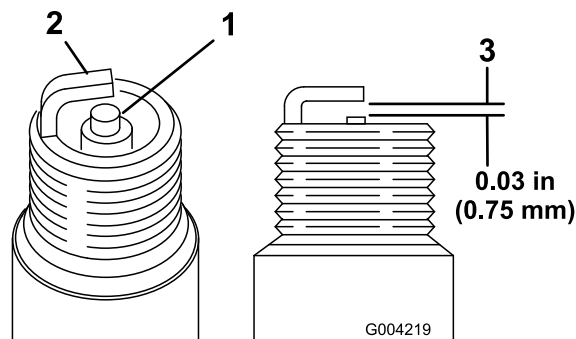

Figure 24
1. Look at the center of both spark plugs (Figure 24). If you see light brown or gray on the insulator, the engine is operating properly.
2. Check the gap between the center and side electrodes (Figure 24).
3. Bend the side electrode (Figure 24) if the gap is not correct.